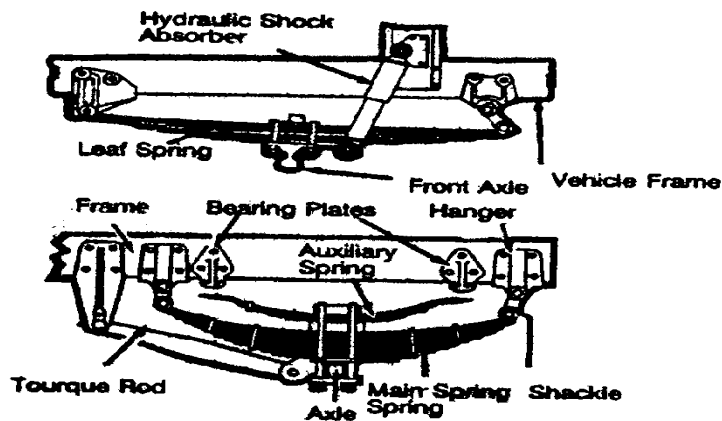

Figure 2-2
- Spring hangers (Figure 2-2) that allow movement of axle from proper position.
- Torque rod or arm, U-bolts, spring hangers and other axle positioning parts that are cracked, damaged, or missing (Figure 2-2 and 2-4).